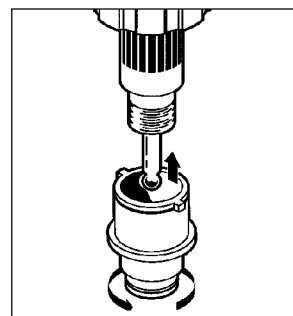

FIGURE 5
6. Slip coupling ring over sensor, then hand tighten threaded insert on the teflon wrapped threads of sensor. (Figure 5)